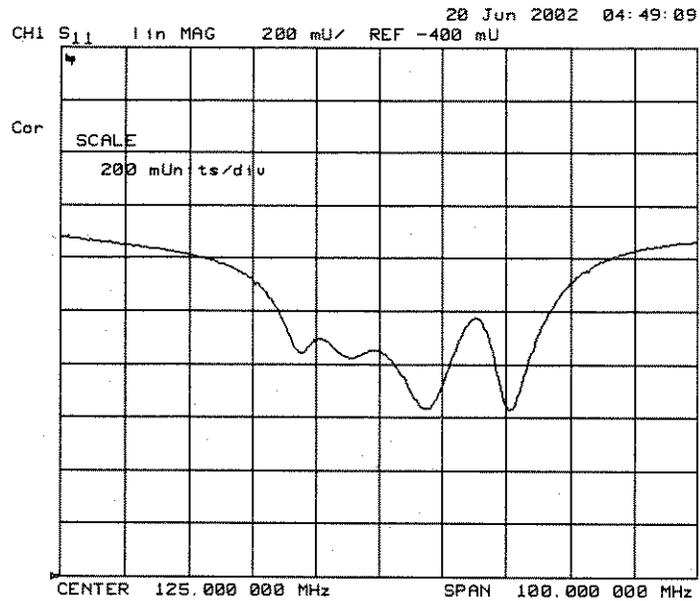

Figure 2-12. Example Reflection Coefficient Measurement Trace
1. Press **FORMAT LIN MAG SCALE REF AUTO SCALE** so the analyzer shows the same data in terms of reflection coefficient, as shown in Figure 2-12.